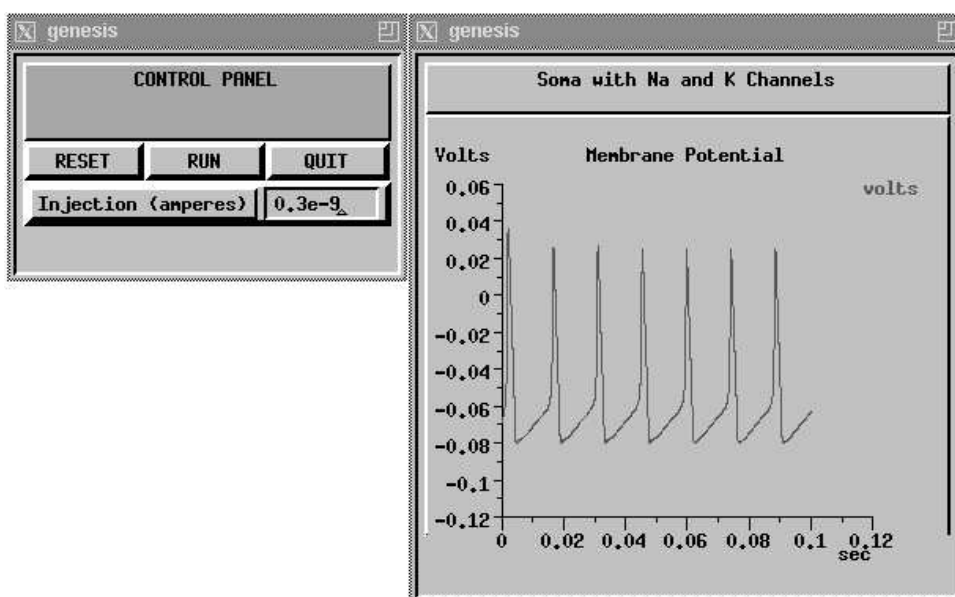

Figure 14.1 Typical results for the GENESIS simulation of a soma with Hodgkin-Huxley sodium and potassium channels.
initVm. (If you later want to have *initVm* follow changes to *Em*, just set it to the same value as *Em*.) With this final addition to the script, everything will be properly initialized. Your simulation results should now look like those shown in Fig. 14.1.
5. Why is the first action potential of the series shown in Fig. 14.1 higher than the following ones? It may help to revisit the *Squid* tutorial (Chapter 4) in order to examine plots of some of the other variables.